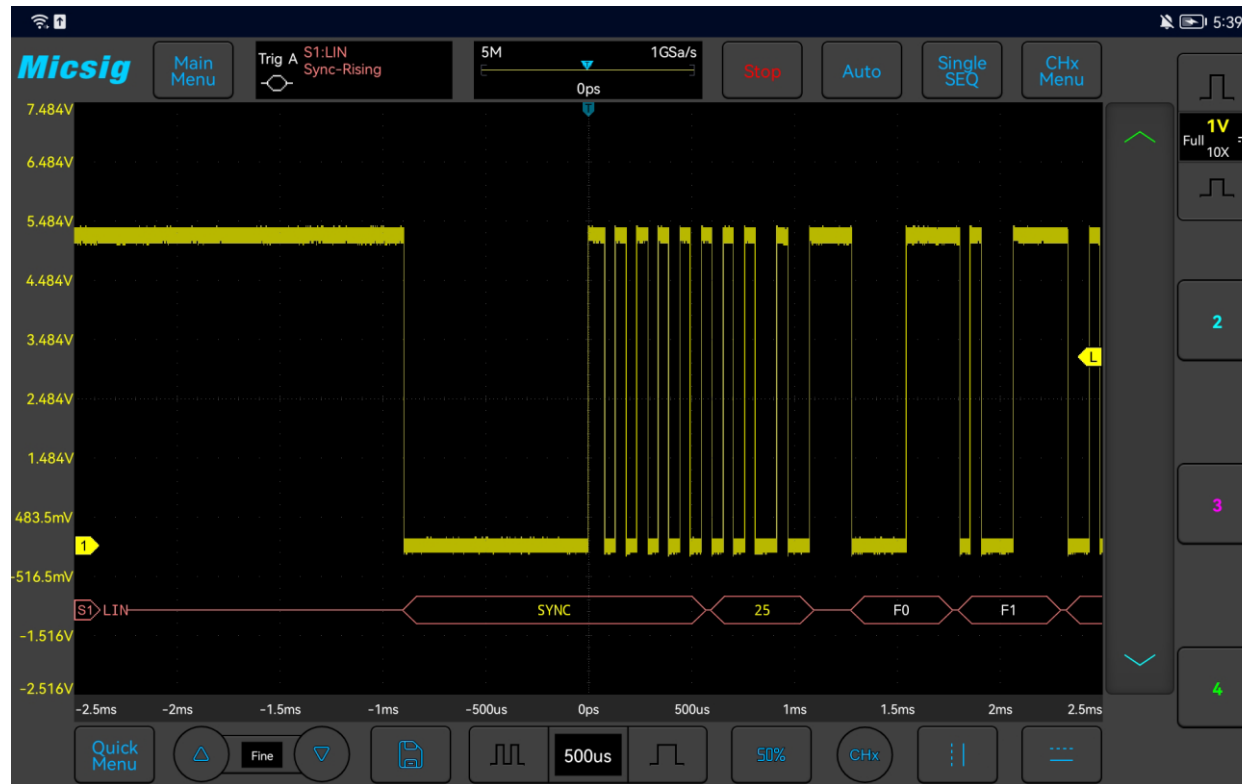

Figure 11-4 LIN Interface
- (1) Tap S1 to open the decode channel, and click again to open the bus configuration menu;
- (2) Select the bus type as “LIN”, click “Ch1”, “Idle High”, “19.20kb/s”, and then close the menu;
- (3) Open the trigger mode configuration menu and click “Synchronous Rising Edge”;
- (4) Click  configuration information to open the decode channel threshold level adjustment box, and drag the adjustment box upward and downward to adjust the threshold level; adjust the threshold level according to the signal amplitude level to make the signal stably triggered. The LIN trigger graphic interface is shown in Figure 11-4: